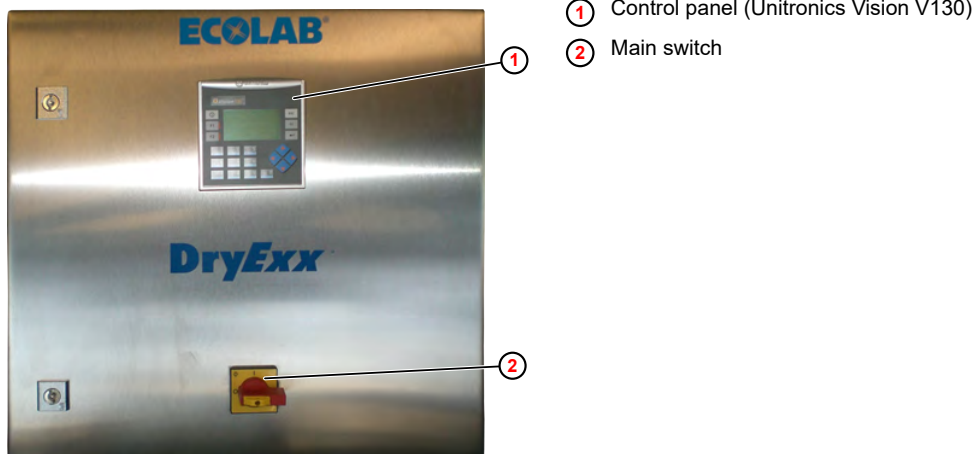

Fig. 11: Switching on the DryExx® Basic
1. Switch off the main switch ( Fig. 11 , ② ) on the control cabinet.
2. Switch on the main switch ( Fig. 11 , ② ) on the control cabinet.